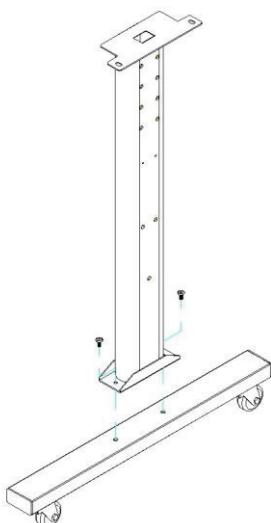

Figure 2.2-1
- Assemble the base beam to the side beam with 2 screws to form a T-shape stand. (See Figure 2.2-1)